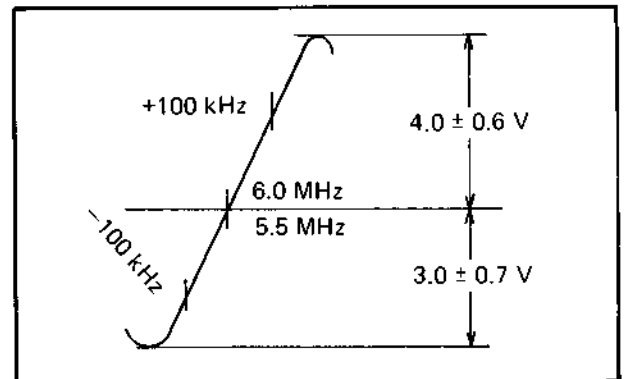

Fig. 6-57
4. Adjust the core of T502 so that the center of the "S" curve comes to 6.0 MHz (HR-3330EK), 5.5 MHz (HR3330EG) as shown in Fig. 6-57.